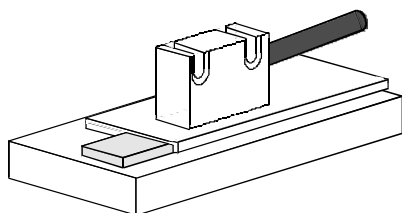

figure 8
- Cover the tape with PS1 profile (fig. 8) and make attachment holes along the profile's groove **without damaging the tape.**